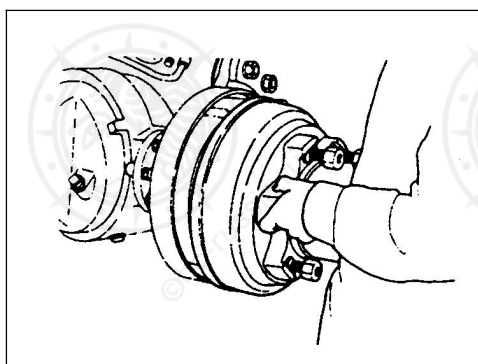

Fig.5-4
- 4) Remove brake drum(refer to Fig.5-4);